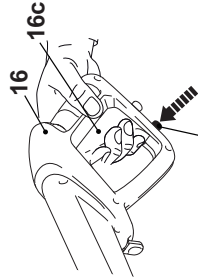

Fig. 28
7. Activate the trigger lock pressing the activate button (16d) to lock the trigger in its off-position (Fig. 28).
8. Turn the on/off switch (3) to "O".